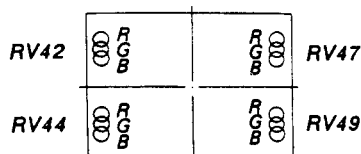

Fig. 1-25
- Adjust RV42, RV44 and RV47, RV49 on the DB board to coincide with the R, G and B dots as shown in Fig. 1-25.